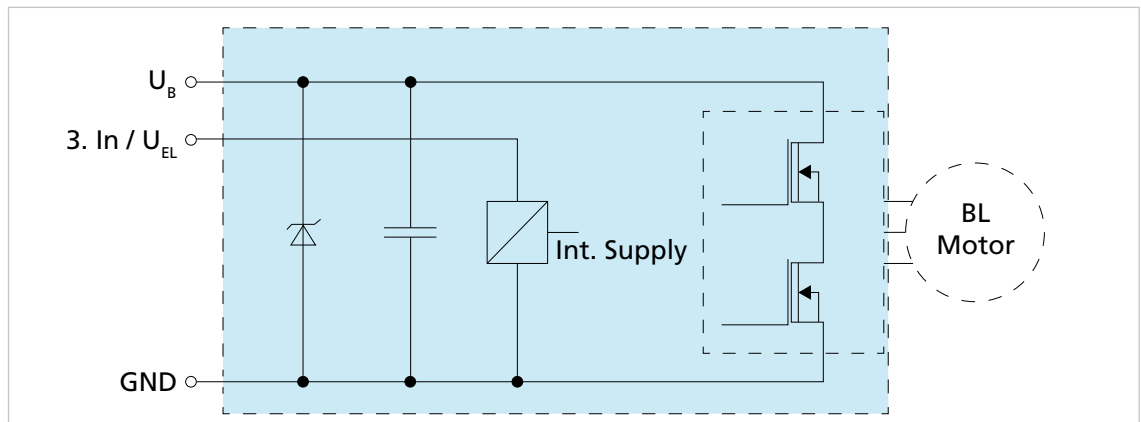
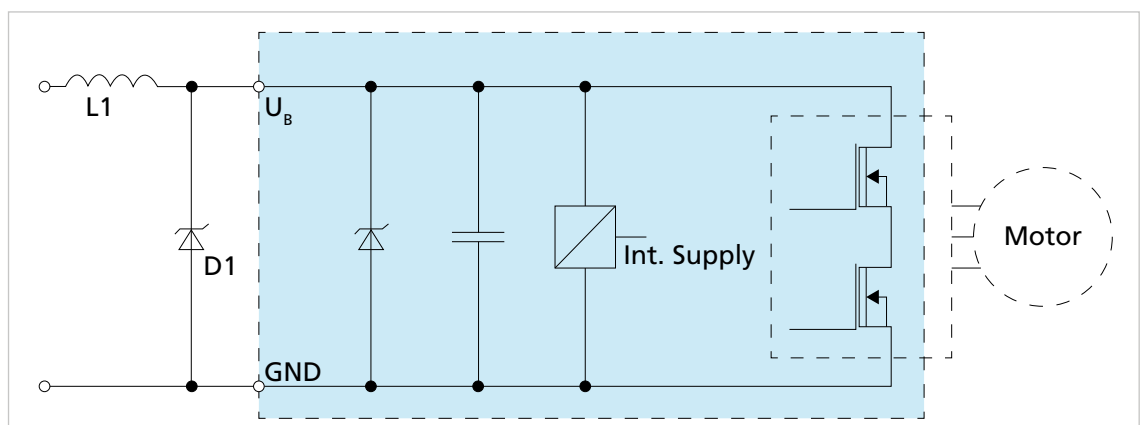

Fig. 6: Circuit diagram – separate electronics supply
Fig. 7: EMC suppressor circuit
**i** In the case of a separate electronics supply (see Fig. 6), the suppressor circuit (see Fig. 7) must be such that it protects both supply connections.